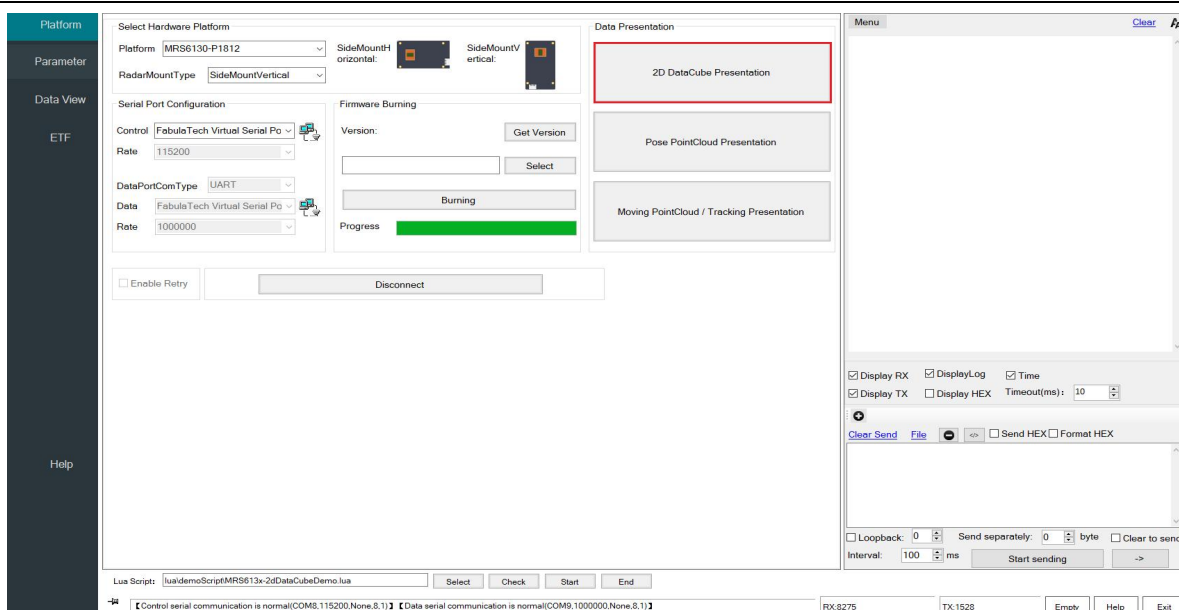

Figure 2-11 2D DataCube Display
1. Click 2D DataCube Display to start the range-spectrum and Doppler-spectrum displays, as shown in Figure 2-11.